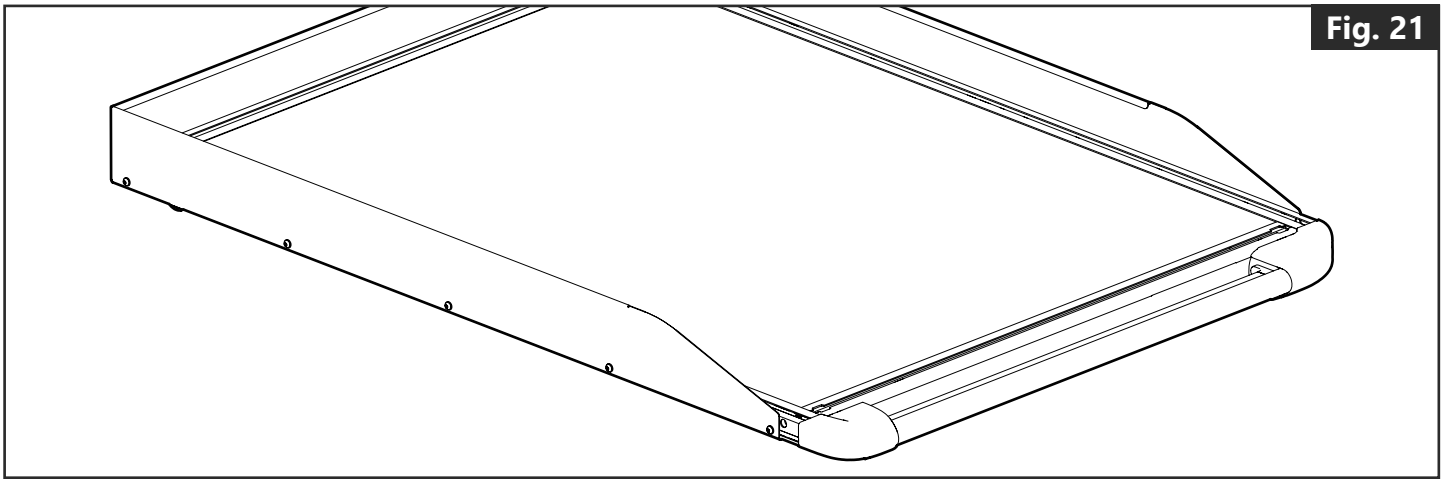

Fig. 21
- Walls for the Mountain Top Slide. **(Fig. 21)**